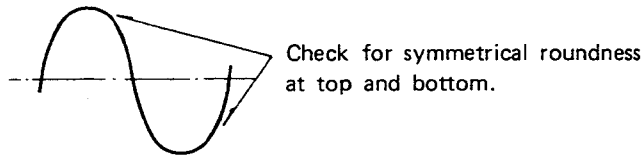
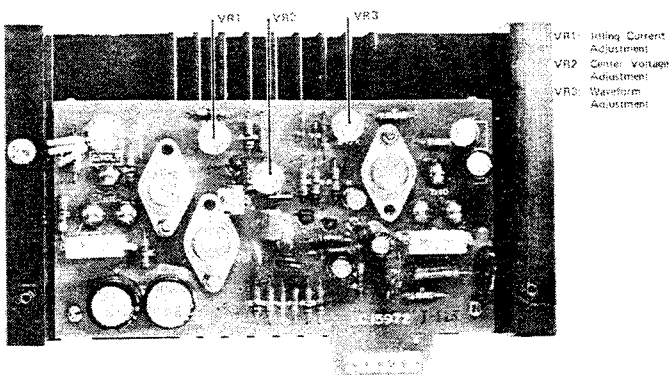

Figure 4. Output Waveform
Figure 5. MA Circuit Board
3. Adjust the VR3 as shown in Figure 5 to achieve a waveform which is symmetrically rounded like that shown in Figure 4.